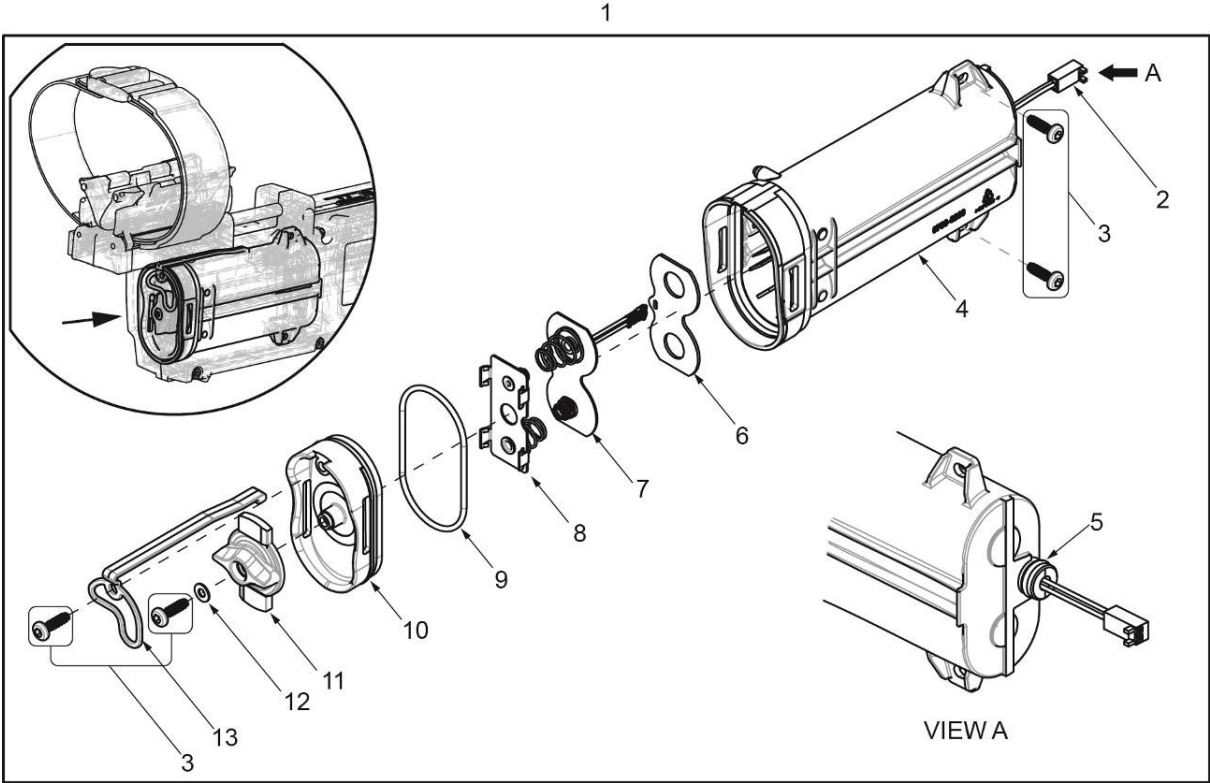

Figure 88: Battery Compartment Kit
- Reattach the armrest and fit the four (4) screws (12mm)
a. The battery compartment and the battery lid are line replaceable units and available as service kits which include associated parts as shown in Figure 88.